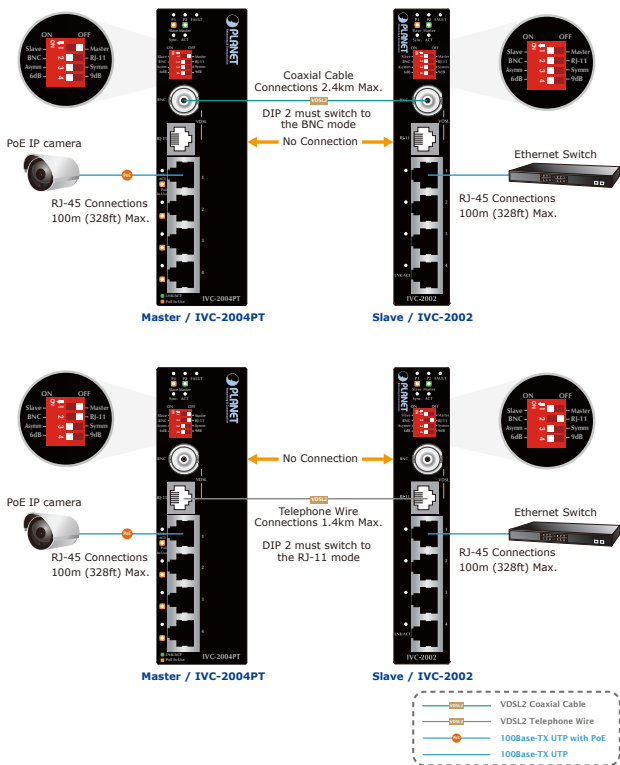

Figure 3-1: Industrial Ethernet Extender BNC and RJ-11 connection chart
PLANET Industrial Ethernet Extender has a DIP switch which can adjust to be Master or Slave mode. Connection of two PLANET Industrial Ethernet Extenders, one must be Master (CO) mode and the other one must be Slave (CPE) mode. Please refer to the following Figure 3-1 chart.